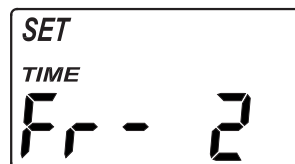

FIG. 40
2. Press the SELECT button three times, so that "SET TIME Fr" appears in the display (See Figure 40).